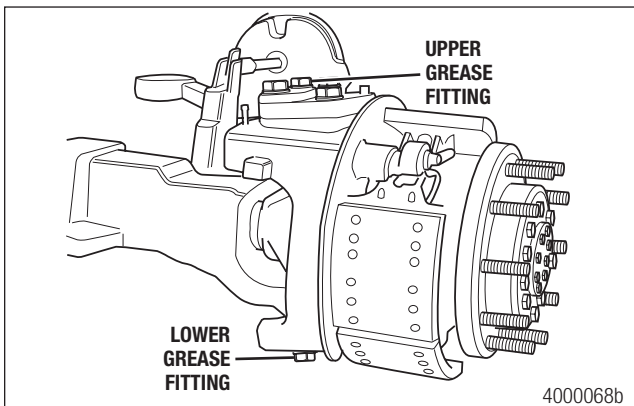
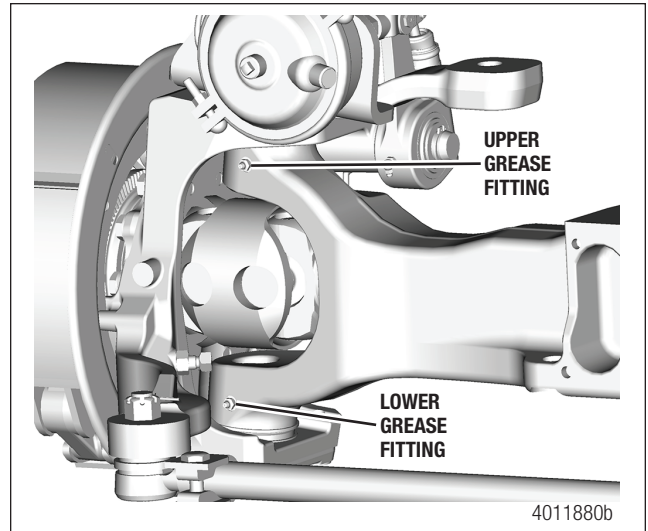

Figure 11.2
Figure 11.3
3. Lubricate the king pins through the grease fittings. The fittings may be located on the upper cap or steering arm and lower cap, or on the axle. Figure 11.2 and Figure 11.3.